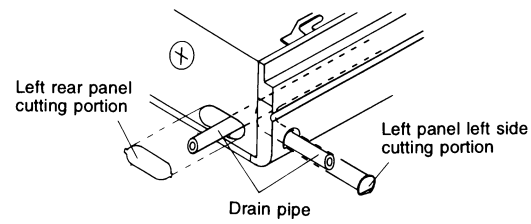

Fig. 22
(1) Rig drain piping
- The drain pipe outlet direction can be chosen from the right rear, right, left rear, and left. Refer to "REFRIGERANT PIPING WORK" (Fig. 16) for right rear and right direction, and refer to Fig. 22 for left rear and left direction.